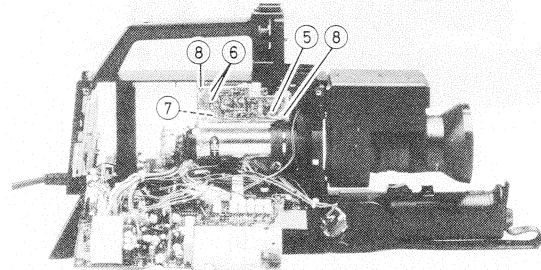

Fig. 5
5. Unsolder the target lead (Fig. 5).
6. Unsolder the 2 bias light leads (Fig. 5).
7. Remove connector P001 (Fig. 5).
8. Remove the 2 screws (Fig. 5).